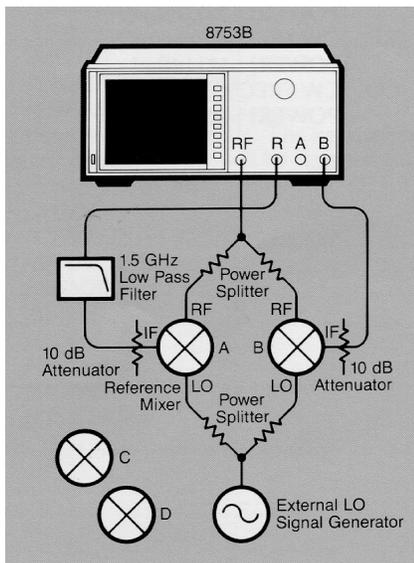

Figure 14. Block diagram for an amplitude and phase tracking measurement
The 8753B can be used to measure swept IF amplitude and phase tracking between mixers over a specified frequency interval. A block diagram of the hardware configuration necessary for this measurement is shown in Figure 14.
1. Connect the hardware, including mixers A and B, as shown in Figure 14.